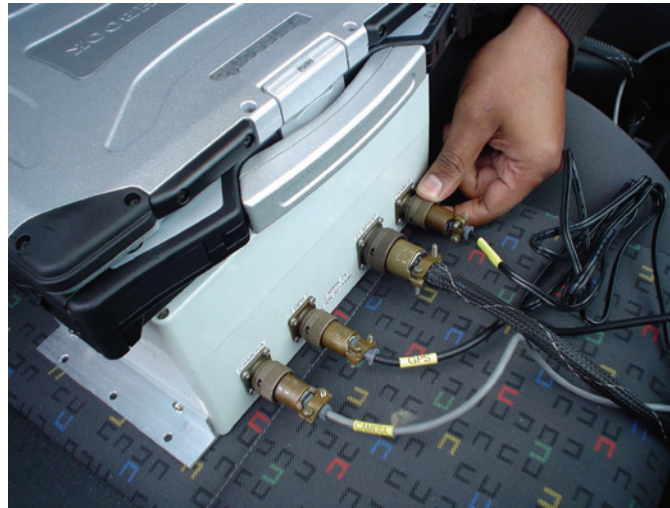

Figure A2. Sensor box connections
2. Connect the appropriate cables to the sensor box (see Figure A2).